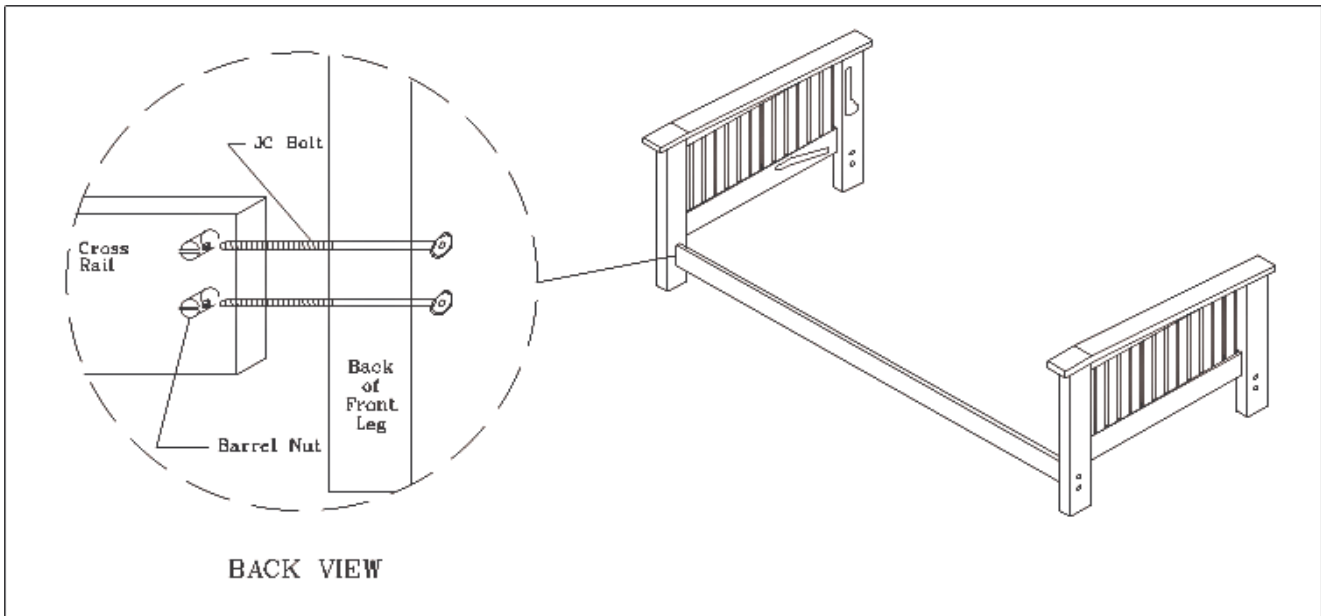

Figure 5
- 6) Locate arm assemblies and the rounded cross rail. Place a barrel nut in each hole in side of rounded cross rail. Make sure that the threaded holes in barrel nuts line up with holes in ends of rail and that the slotted end of barrel nut is exposed (Figure 5). Make sure that rounded portion of this front rail faces outward. Repeat this procedure for the rear (not rounded) cross rail.
- 8) Place JC bolt through top hole in outside of arm assembly's front leg and start it into a barrel nut in one of the cross rails. Be sure slotted end of barrel nuts are toward inside of frame. **DO NOT TIGHTEN!** If bolt won't start, use slotted screwdriver to position barrel nut. Leave about 1/4" of play. Place JC bolt through bottom hole and start it, also leaving 1/4" of play. Repeat procedure for other arm. When all eight bolts are set, gently pull back legs apart just past point of armrest being parallel (Figure 5).
- 11) Tighten JC bolts in front leg. Fasten remaining cross rail to back legs of arm assembly as shown in Figure 5. Tighten securely.